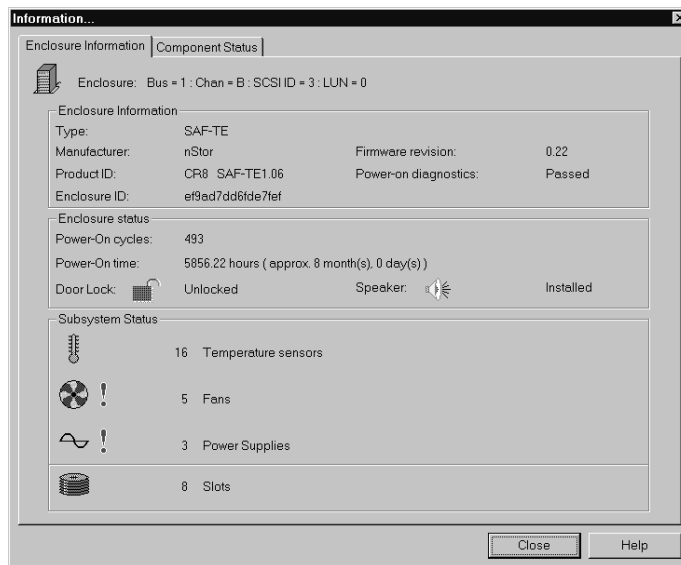

Figure B-1. Enclosure Information Dialog Box
- 2 Right-click the icon  enclosure you wish to view and select **Information** from the drop-down menu. The Information dialog box- Enclosure Information tab is displayed as shown in Figure B-1.